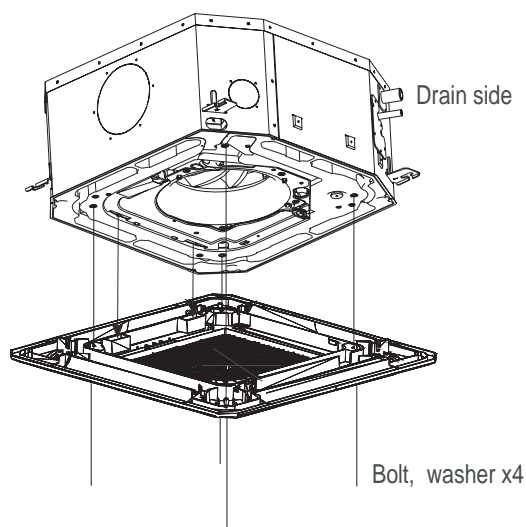

Fig.25
1. Align the swing motor on the panel to the tubing joints of the body properly.(Fig.25)
2. Hang the four fixed rope of the main body to the installation cover and the other three covers of the swing motor.(Fig.25)